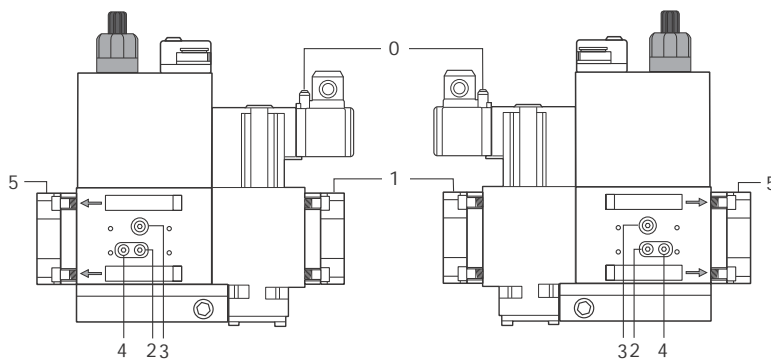
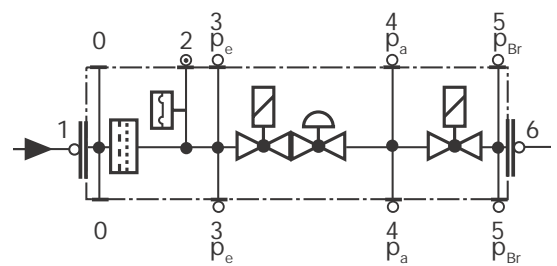

Fig. 35
Fig. 36
- 1 remove the cap unscrewing the fixing screws (A);
- 2 remove the filtering cartridge (B), clean it using water and soap, blow it with compressed air (or replace it, if necessary)
- 4 be sure to replace the “O” ring into its place (C) and replace the cover fastening by the proper screws (A).
- Change the filter if the pressure difference between pressure connection 1 and 2 (Fig. 35-Fig. 36) $\Delta p > 10$ mbar.
- Change the filter if the pressure difference between pressure connection 1 and 2 (Fig. 35-Fig. 36) is twice as high compared to the last check.